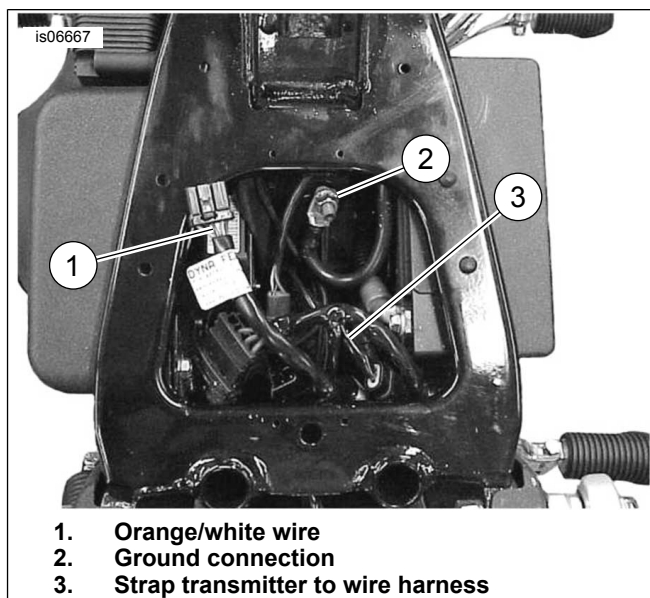

Figure 3. Transmitter Mounting (Dyna)
2. See Figure 3. Use cable straps to fasten the transmitter to the Dyna wire harness (3), located under the seat and near the battery compartment. Route the transmitter wires forward along the right side of the frame.